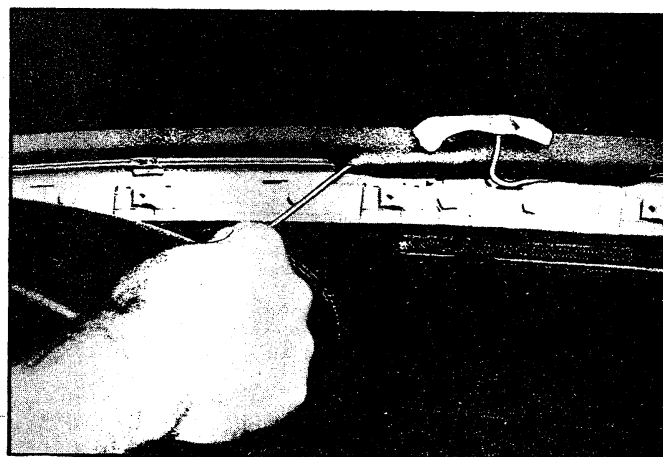

Fig. 22—Seating Weatherstrip
6. Place weatherstrip windshield assembly in windshield frame. From inside of vehicle grasp ends of cord and pull toward you. It is wise to have an assistant exert gentle but firm pressure on outside surface of glass in the area where string is emerging from weatherstrip. Figure 22 illustrates action of string on weatherstrip. Lip of seal is pulled out of frame apex and over pinchweld flange.